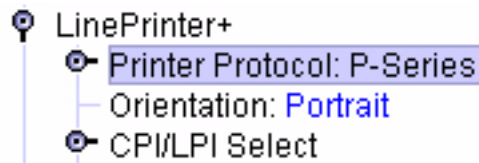

Figure 59. Selecting a Menu Item
3. Select the menu item you want to change. A selection box surrounds your choice. See Figure 59.